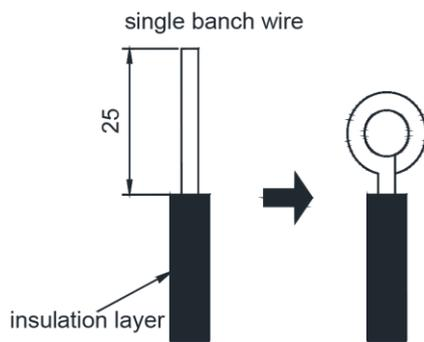

Fig.5.1.1
- (1) Connection of Wire and Patch Board Terminal (as shown in fig.5.1.1)